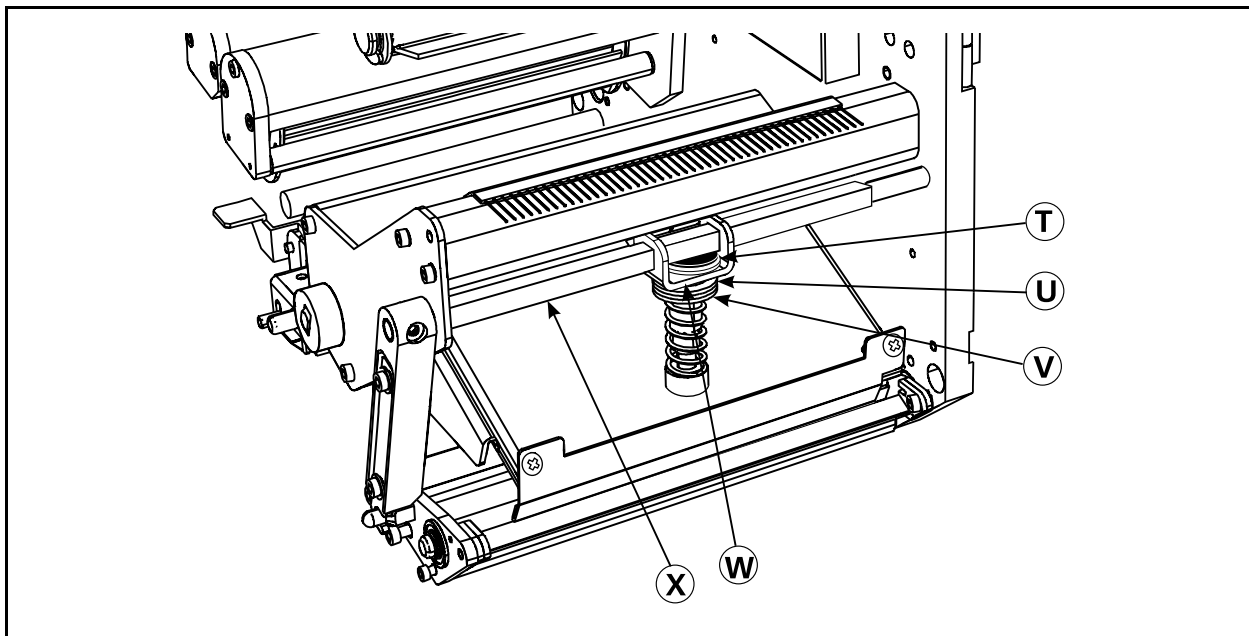

Figure 12. Printhead Pressure (Right-Hand Unit Shown)
To position the toggle, loosen the position locking nut (T, Figure 12) by rotating it clockwise. Slide the toggle to the desired position, and tighten the locking nut by rotating it counterclockwise until it is just finger tight to the toggle pivot shaft (X).
If the darkness setting (burn duration) is set properly, but printing is too light or if the image shows signs of bleeding or swelling, printhead pressure may need to be adjusted. Refer to Figure 12 to adjust printhead pressure. As a starting point for adjustment, set the position of the adjusting nut (V) so that when the locking nut (U) is tightened, it is approximately 0.4" (10 mm) from the yoke (W). Use the lowest pressure possible that provides the desired print quality.
3. Loosen the pressure adjustment locking nut (U) on the threaded shaft of the toggle assembly by rotating it counterclockwise.
4. Rotate the adjusting nut (V) clockwise to increase or counterclockwise to decrease the spring pressure.
6. When print quality is acceptable, hold the adjusting nut (V) in position, and tighten the locking nut (U) against it.